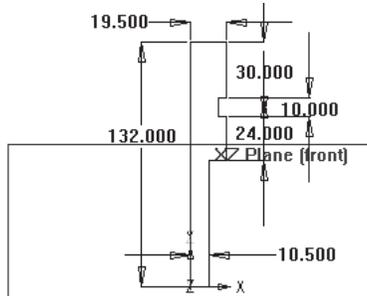

Figure 3-70 Sketch for the revolve cut feature
- Create the revolve cut feature, refer to Figures 3-70 and 3-71
2. Choose the **Wireframe** button from the **Display Mode** toolbar. Draw the sketch for the revolved cut feature and apply the required relations and dimensions to it, as shown in Figure 3-70.